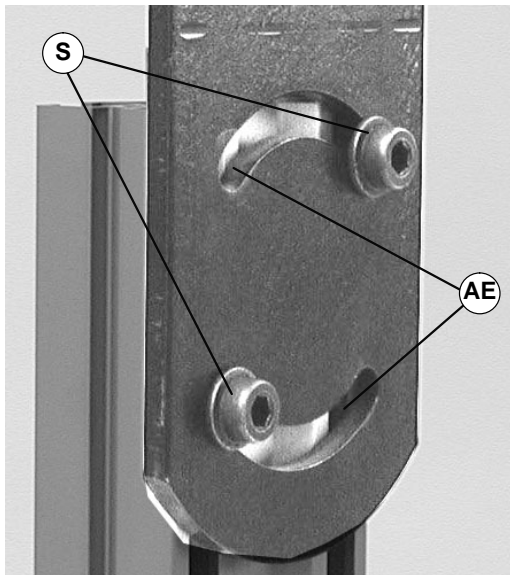

Figure 23
**NOTE:** To rotate stand top plate, screws (S of Figure 23) may need to be re-located to other t-slots (AE).
1. Loosen flange socket screws (S of Figure 23) on both sides of stand.
! WARNING Failure to secure screws (S of Figure 23) may cause conveyor sections to drop down, causing severe injury. TIGHTEN SCREWS (S) AFTER ADJUSTMENT.
3. Secure flange socket screws (S of Figure 23) to 24 ft-lb (18 Nm).